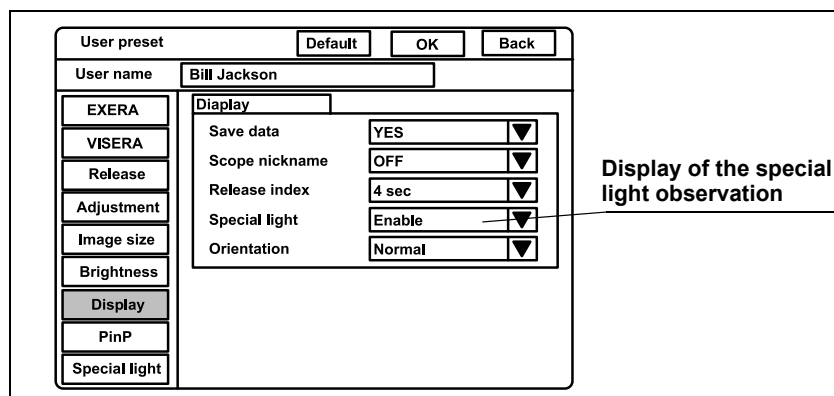

Figure 9.37
1. Click “▼” of “Special light” (see Figure 9.37). The settings “Enable” and “Disable” appear in the pull-down menu.